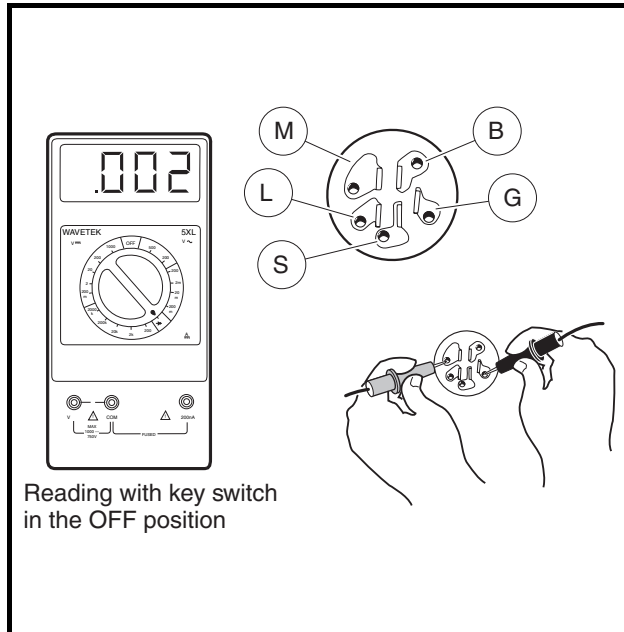

Figure 11-33 Test Key Switch – Engine Kill Circuit
5. Place the red (+) probe on the (M) terminal and the black (-) probe on the (G) terminal. With the key switch OFF, the reading should be continuity. With the key switch turned ON, the reading should be no continuity. If either reading is incorrect, replace the key switch (**Figure 11-33, Page 11-29**).